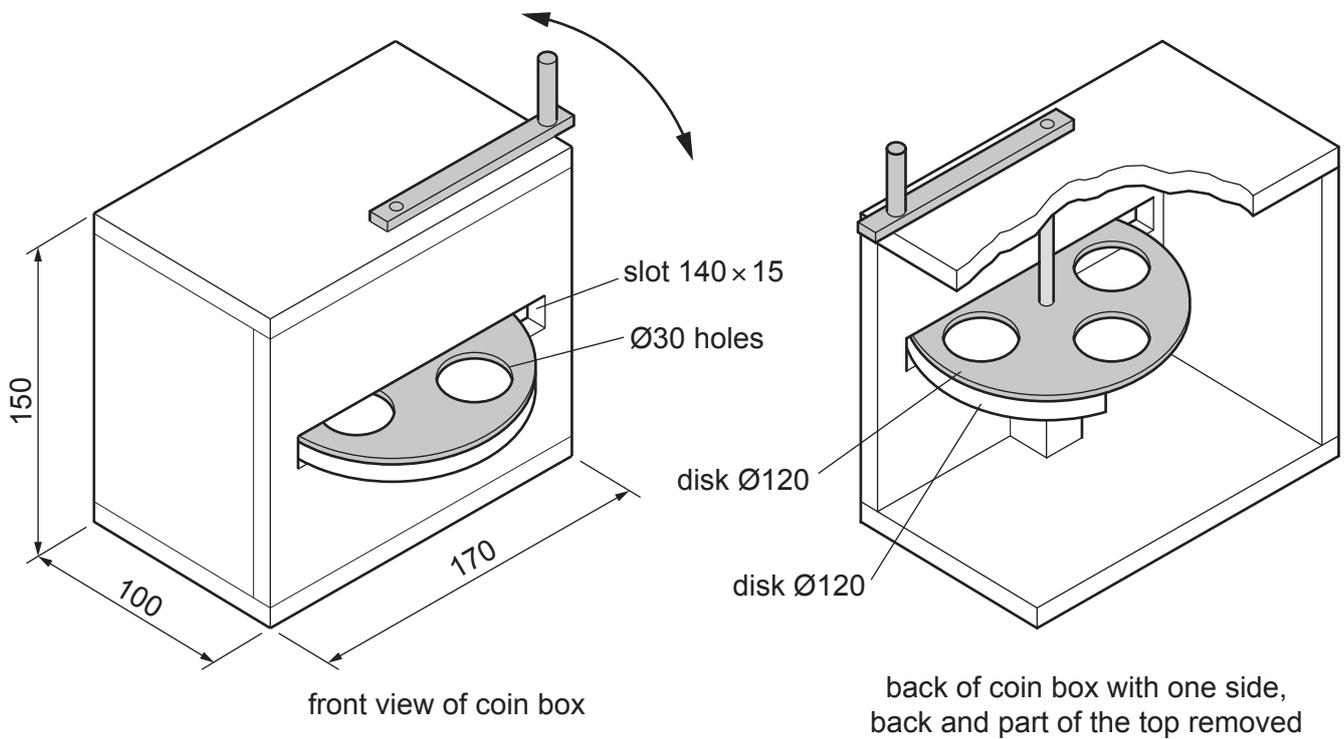

Fig. 12.1
- 12 Fig. 12.1 shows views of an incomplete design for a coin box used by children. The coin box is made mainly from MDF. Coins are placed in the $\text{Ø}30$ holes, the handle is turned, the top disk rotates and coins fall into the box.